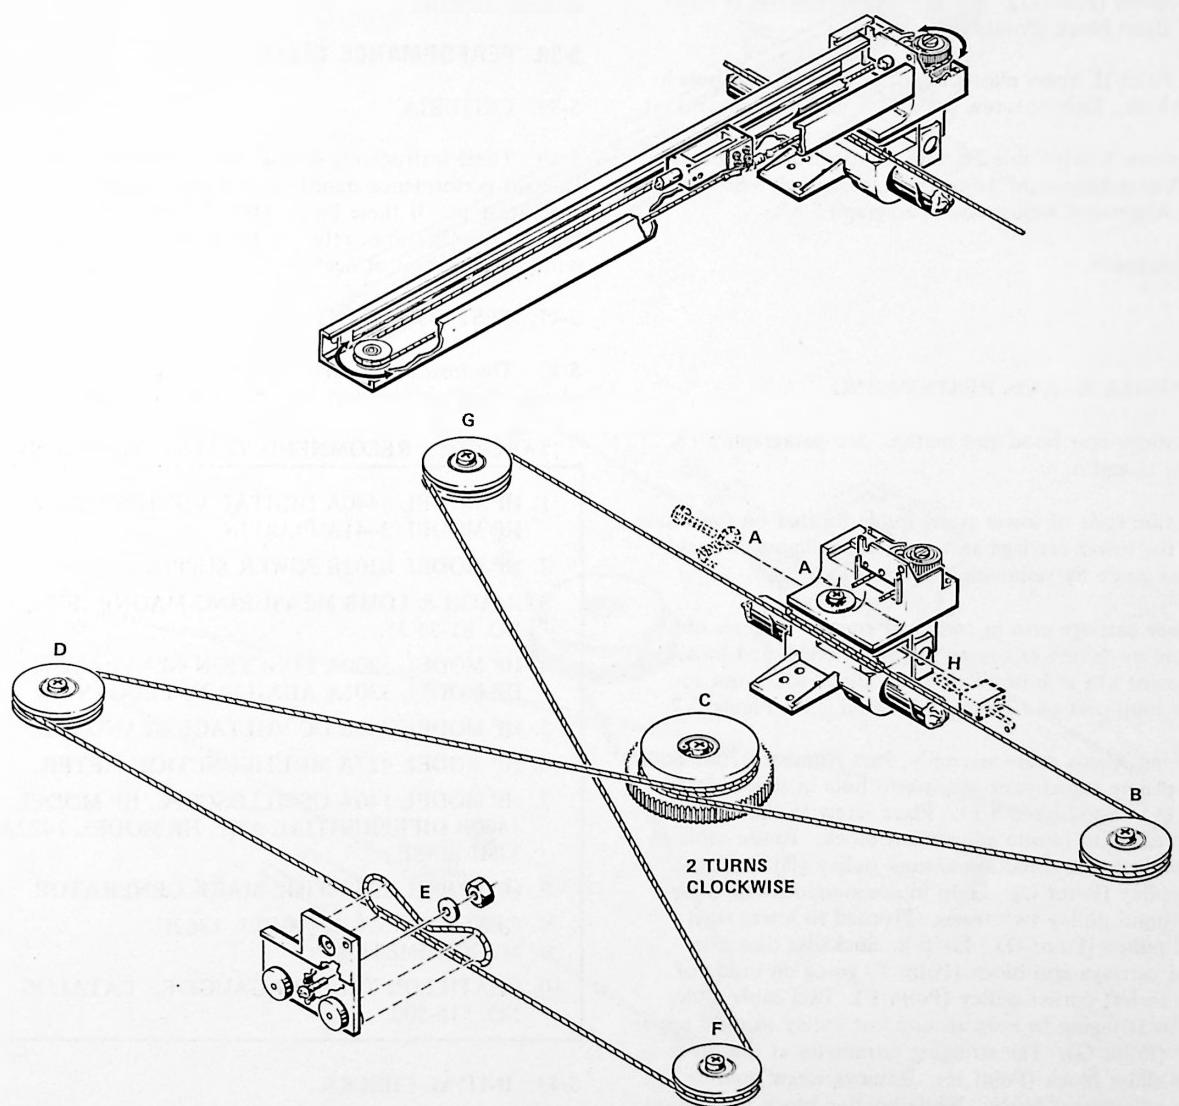

Figure 5-10. X and Y-Axis Restraining, 7044A Model
- b. Install new drive cable assembly consisting of cable spring, cable crimps, cable mounting bracket, and seven-strand stainless steel cable as follows (see Figure 5-10):
d. Using X-axis cable assembly, Part Number 07040-60914 attach loop around screw (Point A). See Figure 5-10. Place screw in slider block. Route cable in clockwise direction around pulley (Point B) to drive chain pulley (Point C). Loop in clockwise direction around pulley two times. Proceed to left corner pulley (Point D). Loop in clockwise direction around carriage arm block (Point E) going on outside of pulley to right corner pulley (Point F). Pass cable under previous stringing to loop around last pulley in left upper corner (Point G). The stringing terminates at other end of slider block (Point H).